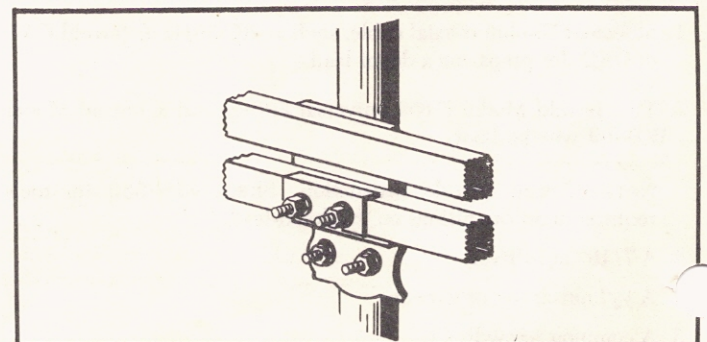

FIGURE 6 TYPICAL U-BOLT MOUNTING FOR J55-LO & J105-HI
3. Complete the procedure of steps 2, 3, and 4 in ASSEMBLY AND MOUNTING OF CUT-TO-CHANNEL MODELS above. See Figure 6.